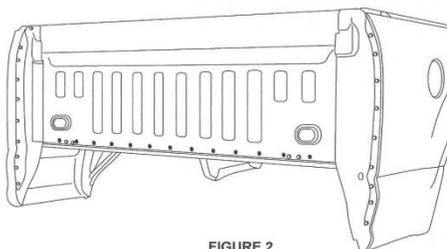

FIGURE 2
- Black dots represent the location of thirteen (13) blind rivets (W707638-S900C). (Refer to Figure 2).